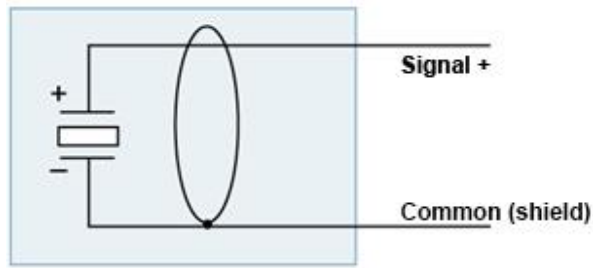
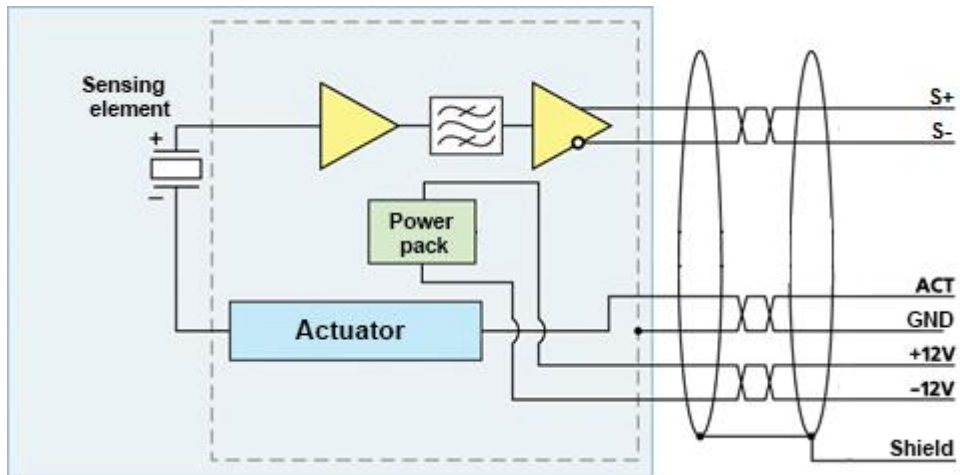

Fig. 1.2 Block diagram of the BC 311 and ZET 321 Hydrophones
Fig. 1.4 Block diagram of the BC 313 and ZET 323 Hydrophones
1.4.6 The block diagrams of the Hydrophones (BC 311, ZET 321), BC 312, (BC 313, ZET 323) are shown on Fig. 1.2-Fig. 1.4.